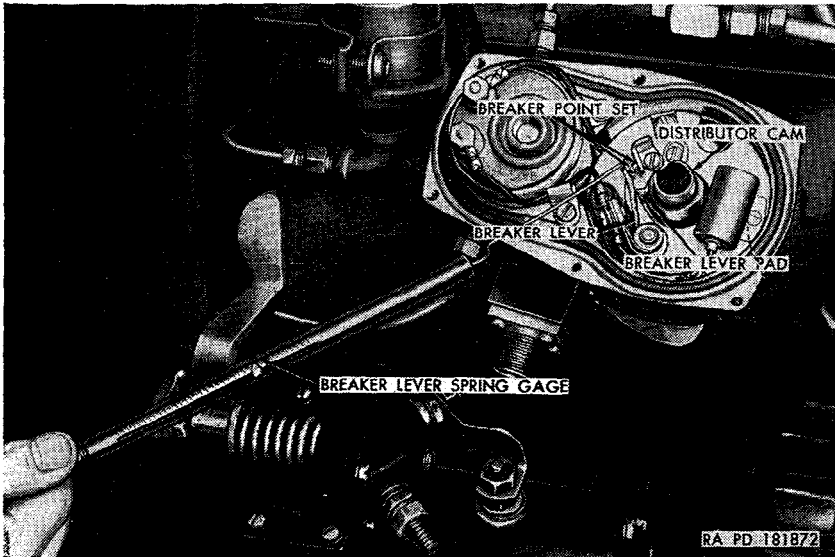

Figure 83. Breaker lever spring tension adjustment.
- (d) Place the breaker lever spring gage (fig. 83) end over the moveable breaker point and pull on the gage at right angle